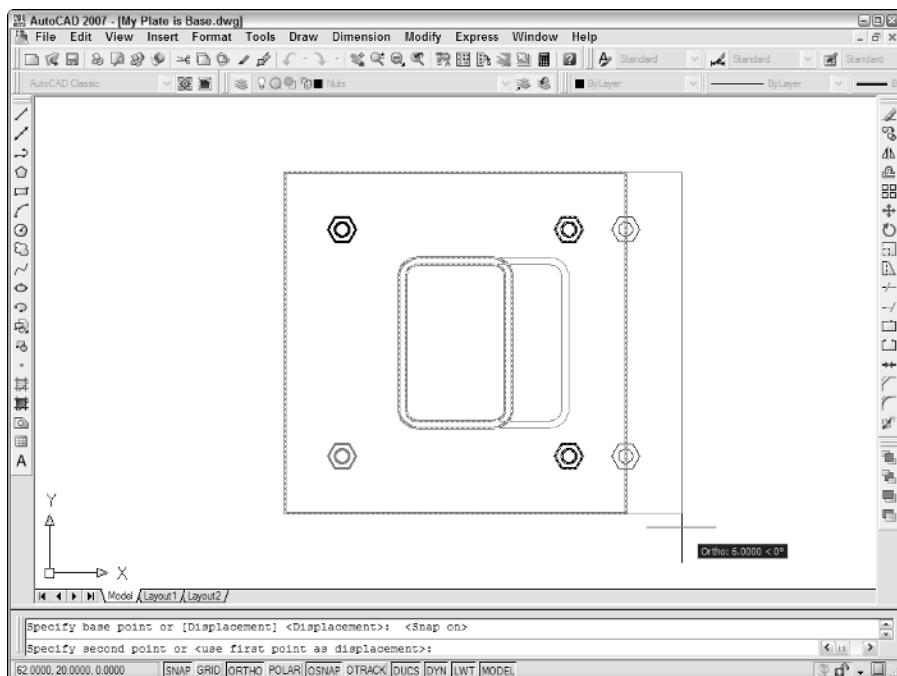

Figure 3-11:
8. Move the crosshairs to the right until the dynamic input tooltip shows a displacement of 6 units to the right and then click in the drawing space (see Figure 3-11).
AutoCAD stretches the column and plate by the distance that you indicate and moves the anchor bolts that were completely inside the crossing window rectangle, as shown in Figure 3-11.